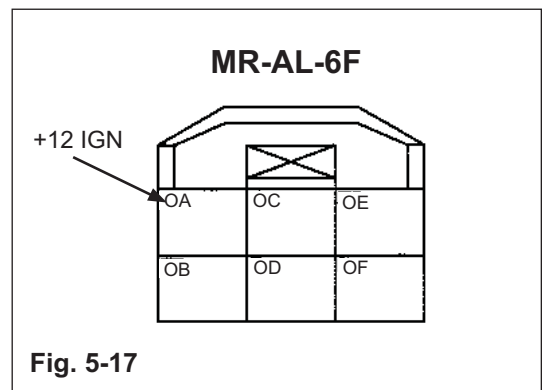

Fig. 5-17
- a) Locate the Green / White-Striped wire in pin OA of the 6-pin connector. (Fig. 5-17)